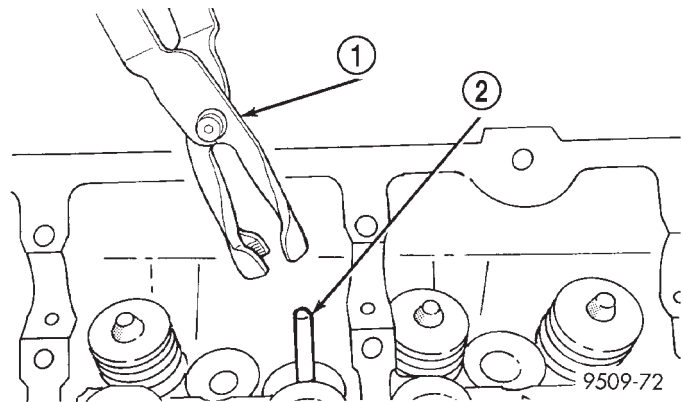

Fig. 53 Valve Stem Oil Seal Tool
- (5) Remove valve spring.
- (6) Remove valve stem seal by using a valve stem seal tool (Fig. 53).